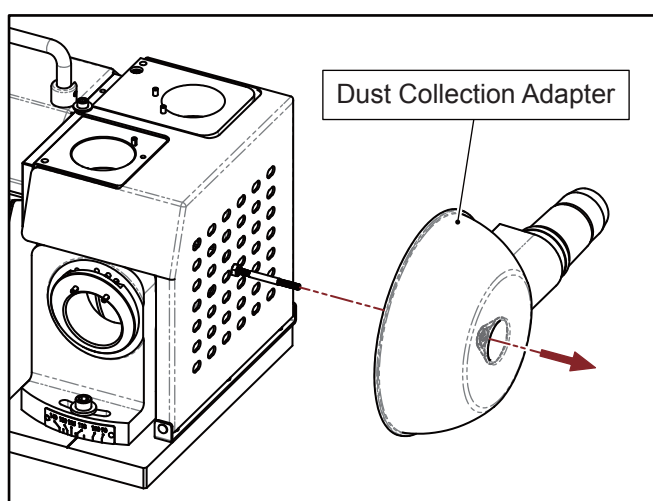

Fig. 4-2
2. Align the hole in the center of the dust collection adapter with threaded rod. Push the dust collection adapter to the end. (Fig. 4-2)